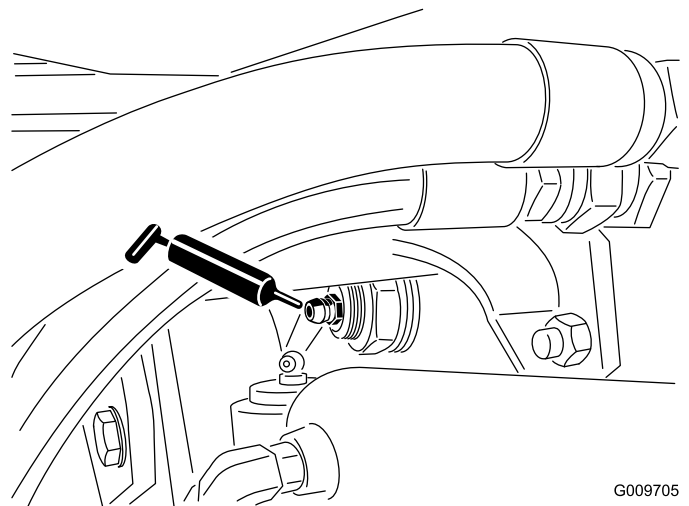

Figure 28
- Rear axle pivot bushings (2) (Figure 28)